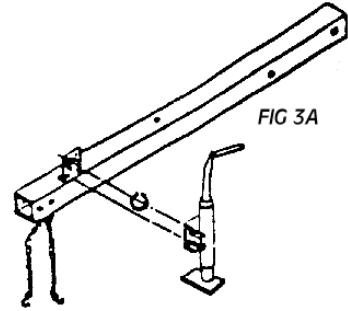

FIG 3A
- 8) Attach jack onto tongue as shown in Fig. 3A. Install snap ring to retain jack to mounting plate. Move jack into up and down positions to insure proper installation.